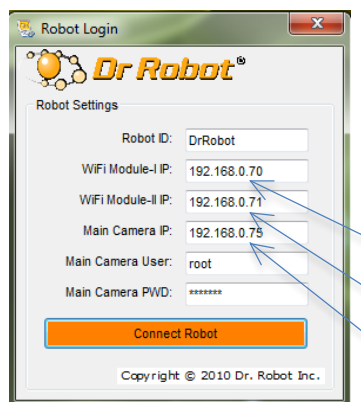

Figure 4: Changing IP addresses for each robot with the Robot Login utility. The blue arrows point to the three digits that are specific to the robot.
- c. **Setting the Robot IP address** – On your computer, you must set the IP addresses for your robots various components. The easiest way to do this is double clicking the *Jaguar Control* icon. This will launch the *Robot Login* window, (see Fig. 4). You must modify the 1st digit on the 4th number of each of the three IP addresses. This digit is specific to your robot, (see table 1 Robot Motion Board IP column). Once you select “Connect Robot” your settings will be saved to a text file and you won’t have to run this program again unless you switch robots.
Ensure the Wi-Fi Connection IP of the robot’s main controller is set to 192.168.0.XX, where XX is dependent on your robot (see Table 1). Note, all other IPs for that robot should have the same first digit in the last field of the IP. For example, if the robot motion board IP is 192.168.0.60, then the vision board should be 192.168.0.61. Likewise, if the robot motion board IP is 192.168.0.70, then the vision board should be 192.168.0.71. Enter the *Port* as “10001” as shown in Fig. 4.